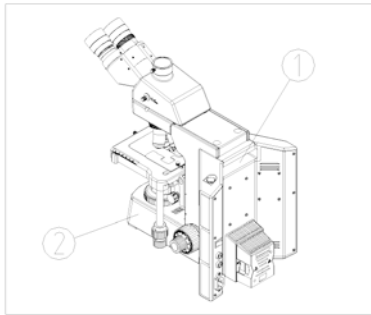

Fig. 1
3. When moving the microscope, use one hand to hold the arm of the microscope ① and another hand to carry the front base ②(see Fig. 1).